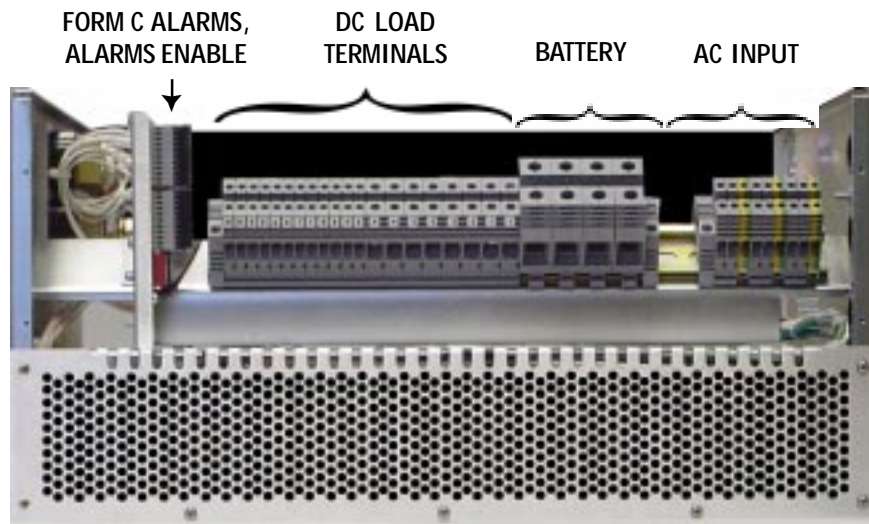

Figure 4. Rear View of Connections to DIN-Rail Terminal Blocks
- 6.4 The DC distribution connections are made at the rear of the X150 to DIN-Rail terminal blocks. See Figure 4.